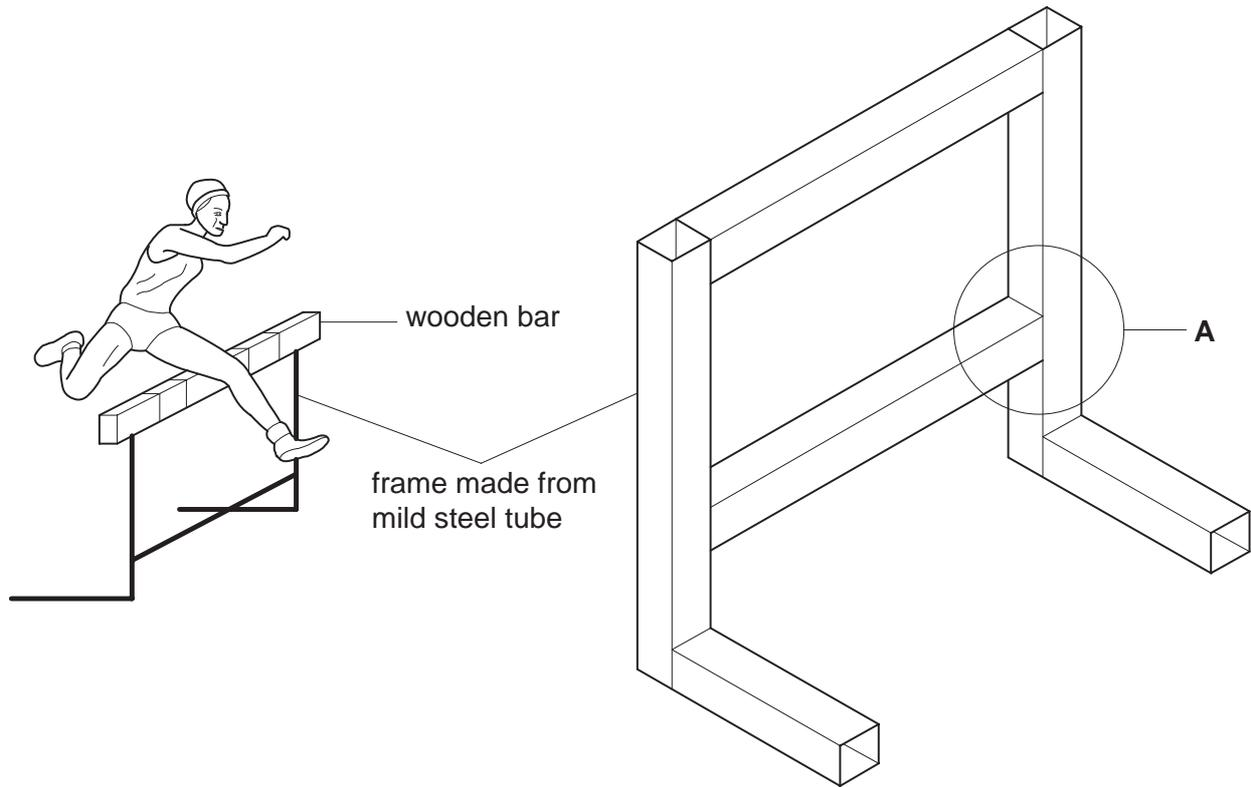

Fig. 13
- 11 Fig. 13 shows an athletics hurdle made from mild steel tube and wood. The hurdle is to be used outside.